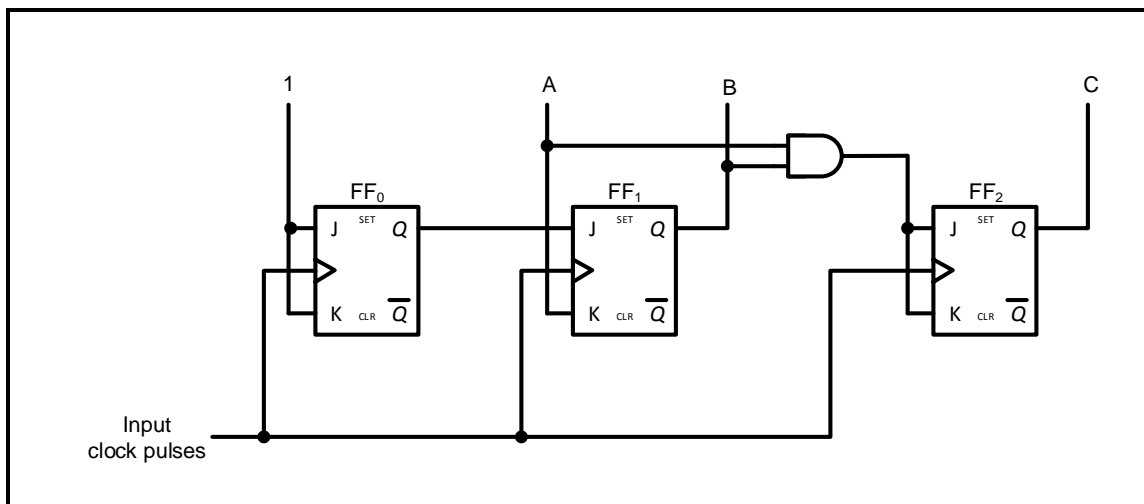

FIGURE 5.6 THREE-STAGE BINARY COUNTER
- 5.6 Refer to FIGURE 5.6 below of a three-stage binary counter and answer the questions that follow.
- 5.6.2 State whether the circuit in FIGURE 5.6 is synchronous or asynchronous. (1)